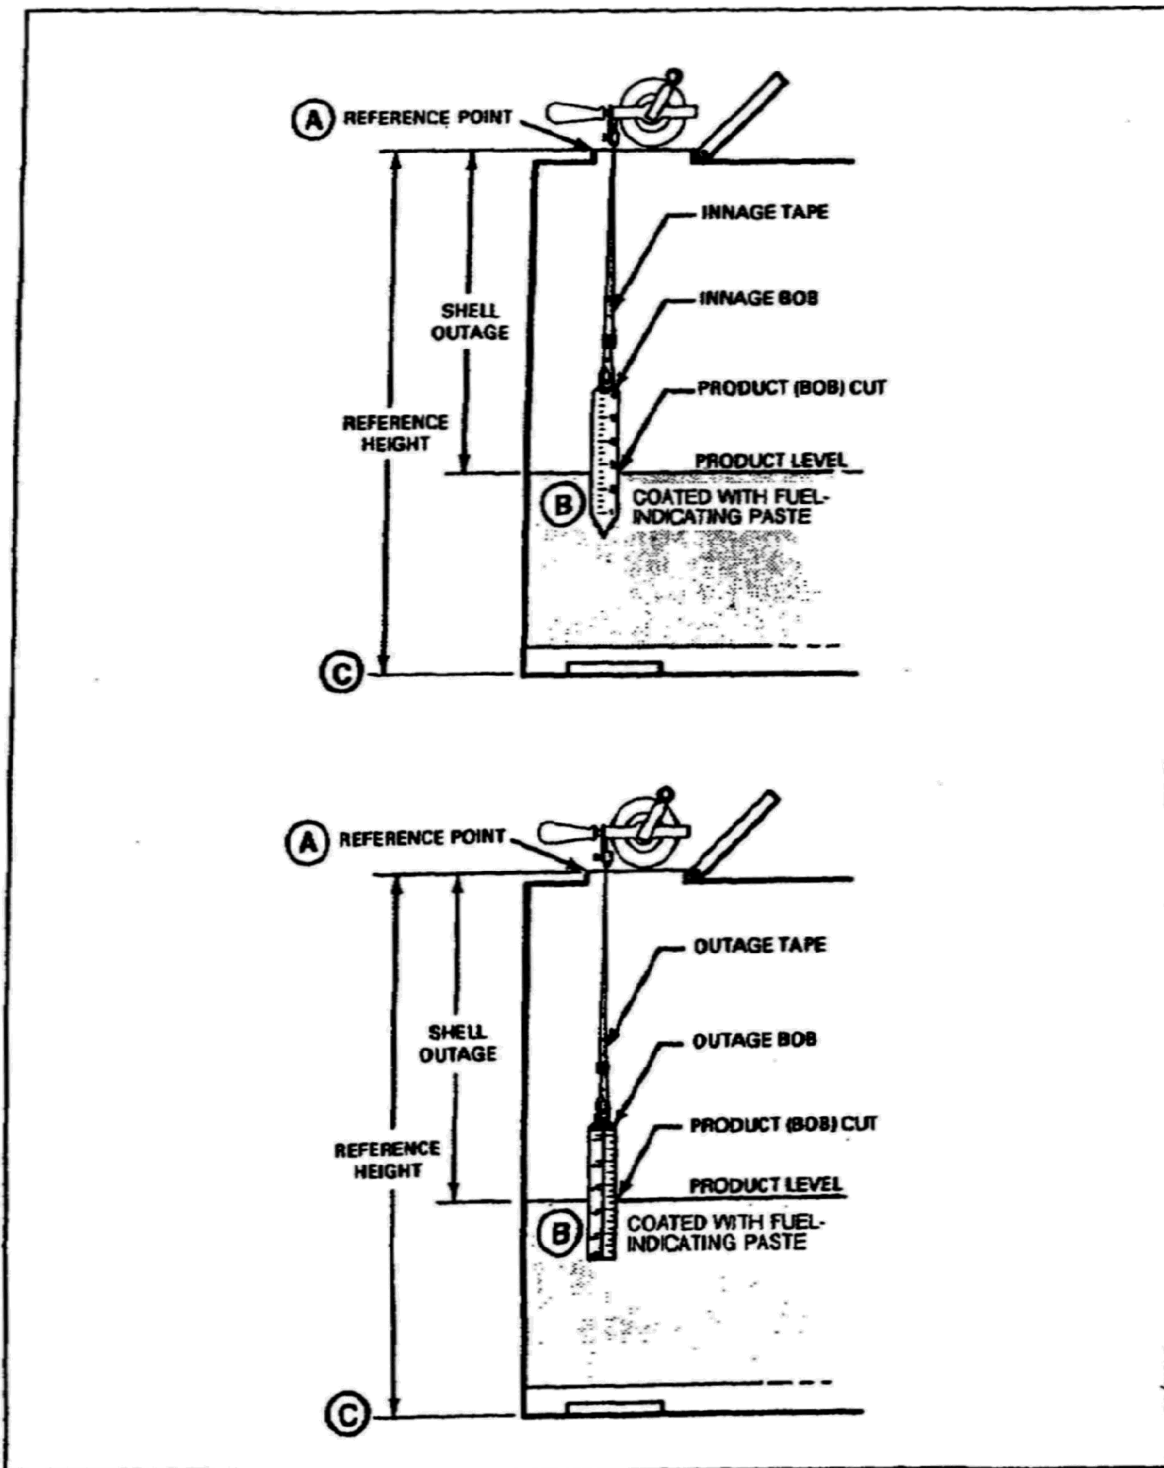

Figure 1-4. Outage gaging.
- o Hold the unmarked side of the tape against the metal rim of the gaging hatch at the reference point (point A in Figure 1-4).
- o Lower the tape and bob into the tank until the bob touches the surface of the product (point B in Figure 1-4).
- o Wait until the bob is motionless. Lower the tape slowly until the bottom of the bob is 2 or 3 inches below the product's surface (point B in Figure 1-4 represents the product's surface). Record the reading on the tape at the reference point (point A in Figure 1-4) as the tape reading.